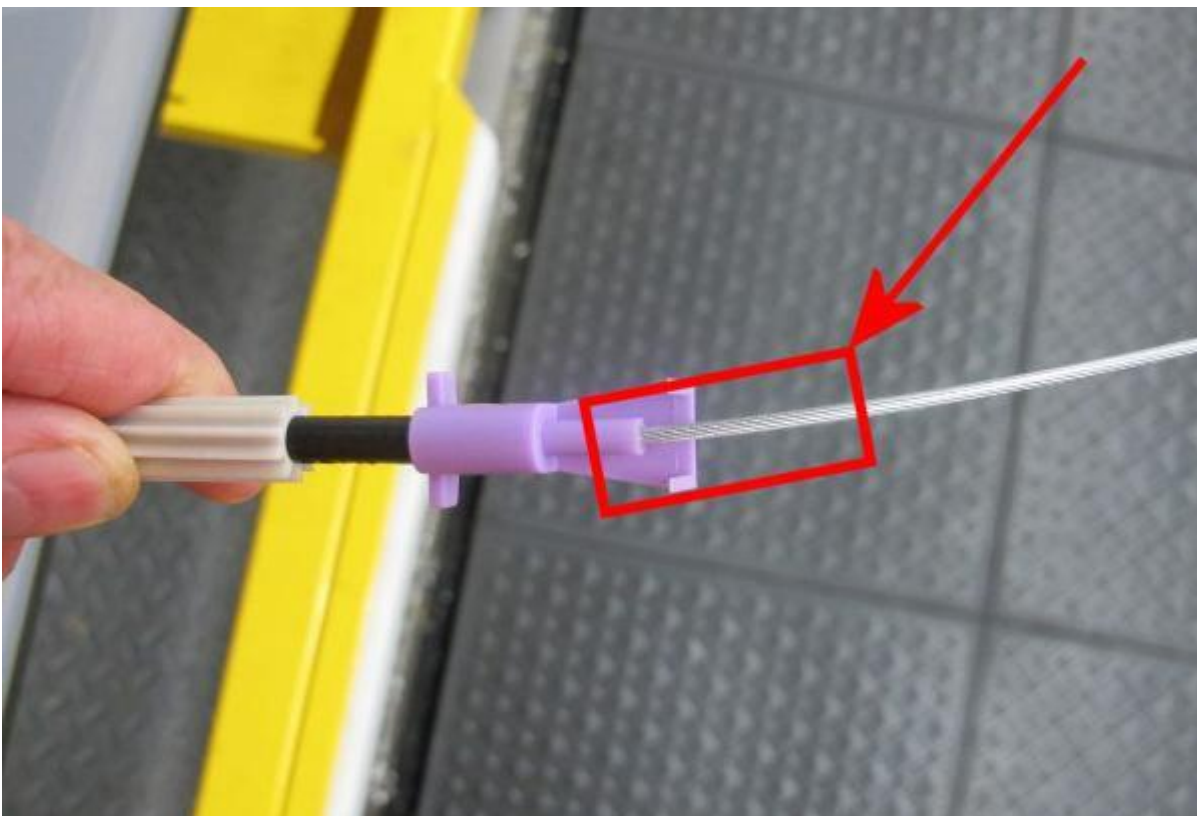

Figure 3
- Referring to Figure 3, Apply Dow Corning Molycote 33 extreme - Low temperature bearing grease to the power latch motor inner cable